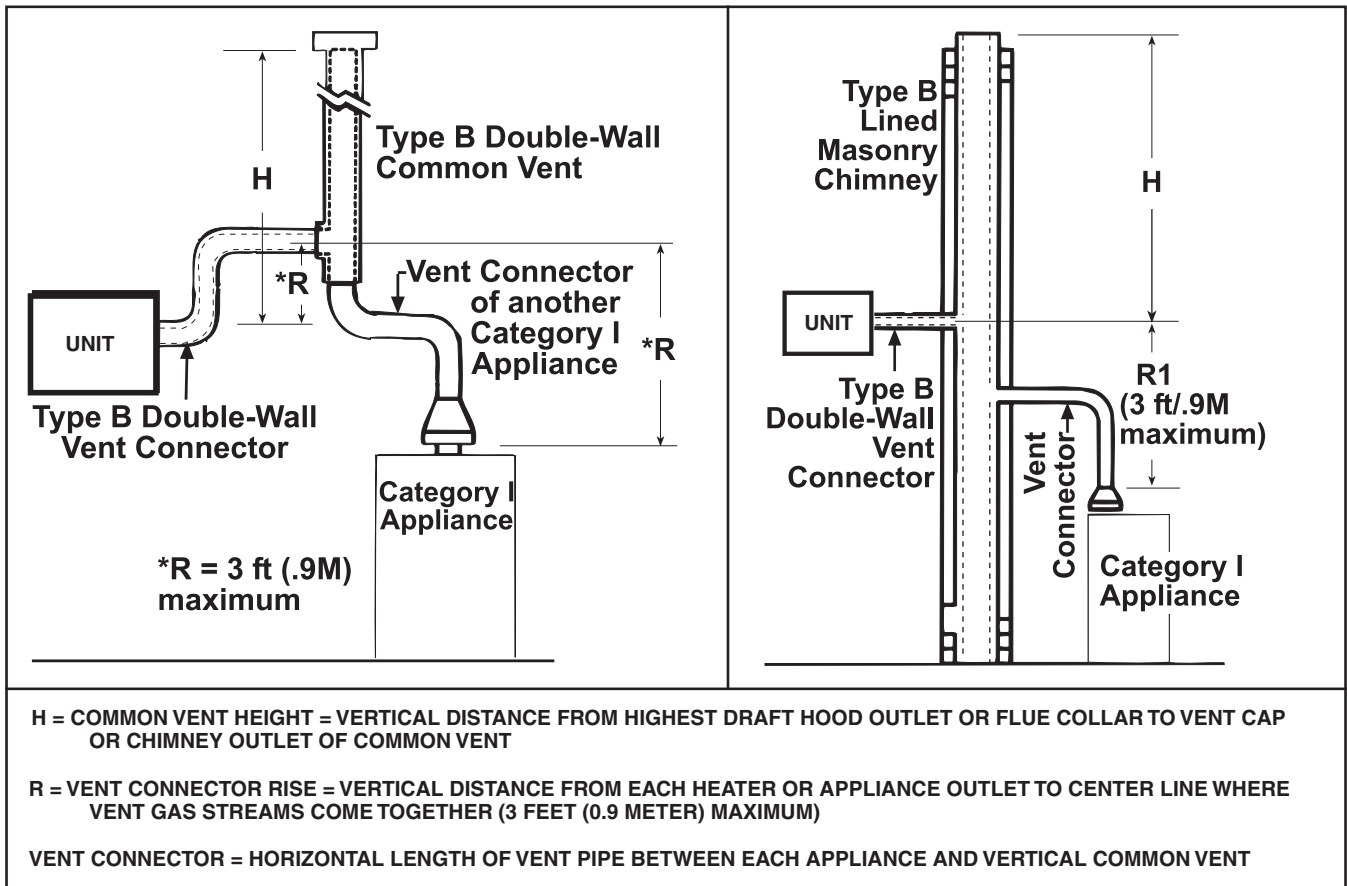

Figure 15. Typical Category I Common Vertical Vent
1. Select vent pipe and vent connector for Category I vent (see **Figure 15**).